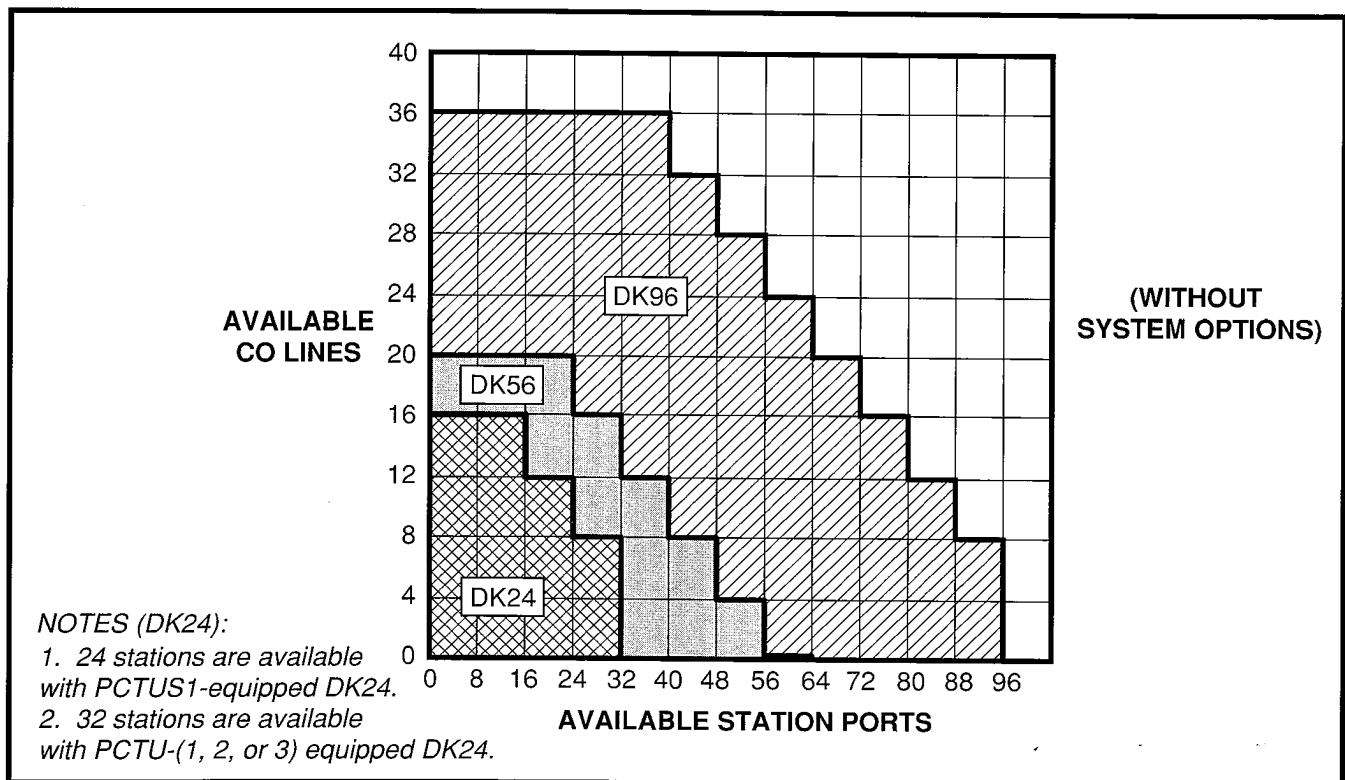

FIGURE 4-1—PCB CONFIGURATION CHART
1.01 STRATA DK systems are flexible in their ability to meet varied system needs. A modular building block approach allows the addition of various parts to meet system needs and applications. A universal slot concept is used in the KSU, which means that a PCB slot in the KSU can accept any one of a number of different PCBs. This is contrasted with a dedicated slot approach (used in previous STRATA systems), where a particular slot can only accept a specific PCB, such as a CO line interface PCB. DK24 has six universal slots, DK56 has eight, and DK96 has 14. This increased flexibility in STRATA DK means that tradeoffs can be made between the number of CO lines and stations in a system application. This is illustrated in Figure 4-1.
1.02 Figure 4-1 shows that in most configurations, four CO lines can be traded for eight stations. Conversely, for every eight stations that are given up, four CO lines can be added. The maximum quantities of 16 CO lines for DK24, 20 CO lines for